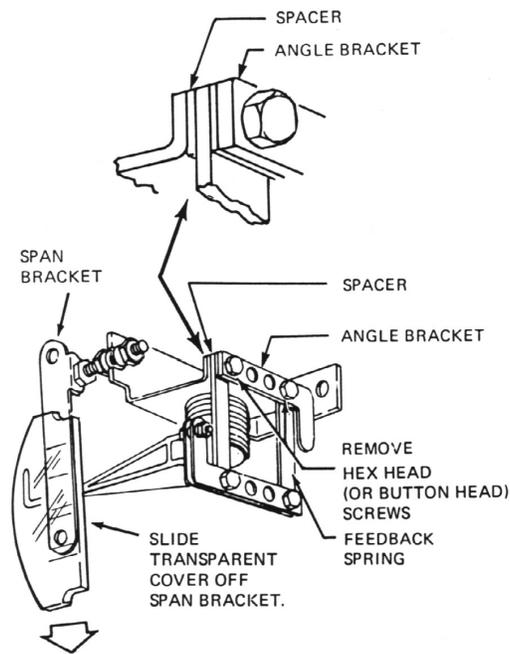

Figure 13.
4. Lift aside feedback assembly (do not damage nozzle) to expose spring on bottom of case. Slide transparent cover off span bracket as shown in Figure 13. Unhook spring from motor bracket.
5. On feedback assembly, remove two hex head (formerly buttonhead) screws. Interchange locations of angle bracket and spacer. See Figure 13.
Figure 13 shows parts in INC-INC arrangement.